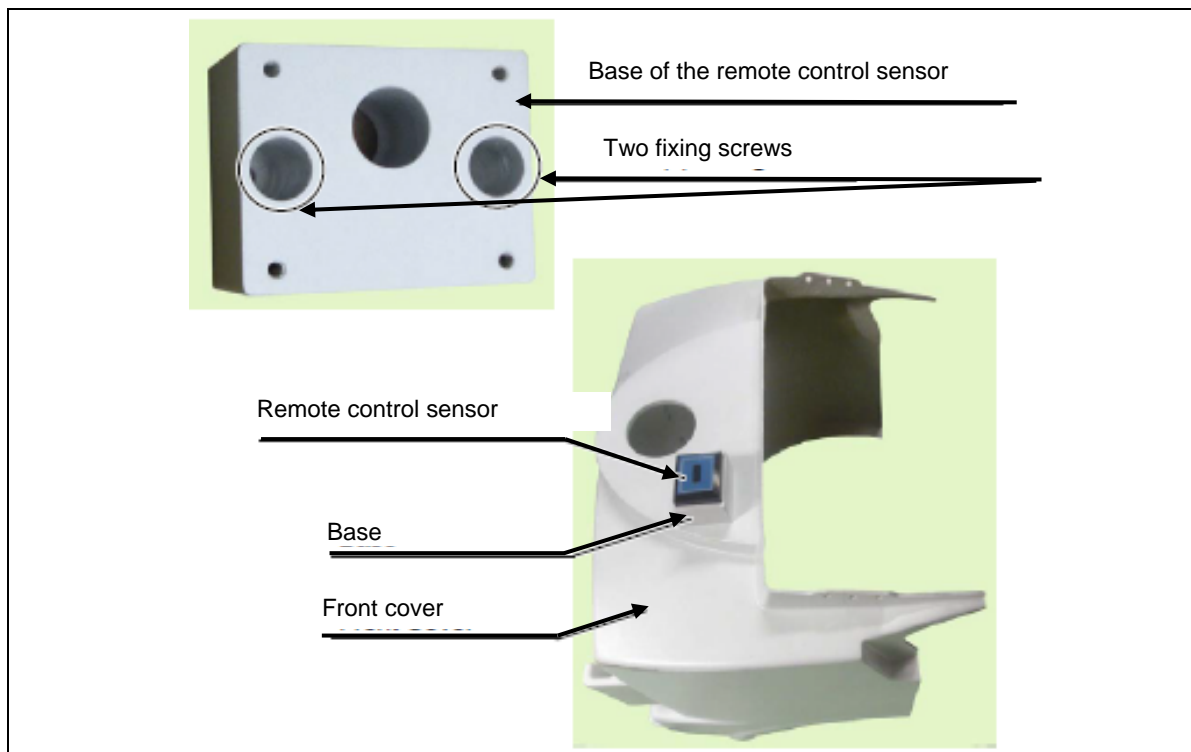

Figure 3
- (4) Pass the signal cable of the remote control sensor through the base of the remote control sensor. See figure 3.